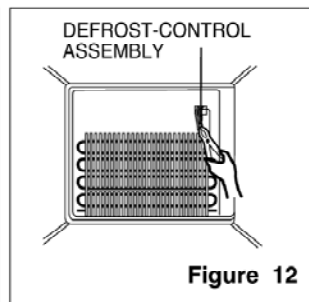

Figure 12
2. Separate the connector with the Defrost Control assembly and replace the Defrost Control assembly after cutting the Tie Wrap. (Figure 12)